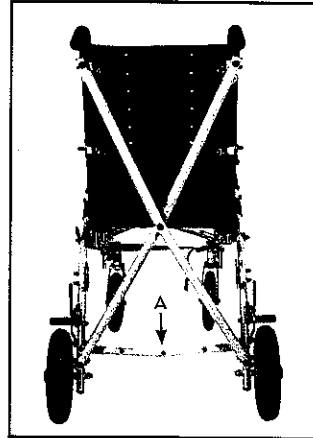

figure 2
2. Place chair in the upright position, hold one push handle (A) and press firmly on the seat rail (B) on the opposite side.
4. Press down the locking brace to its full extended position (Fig. 2).